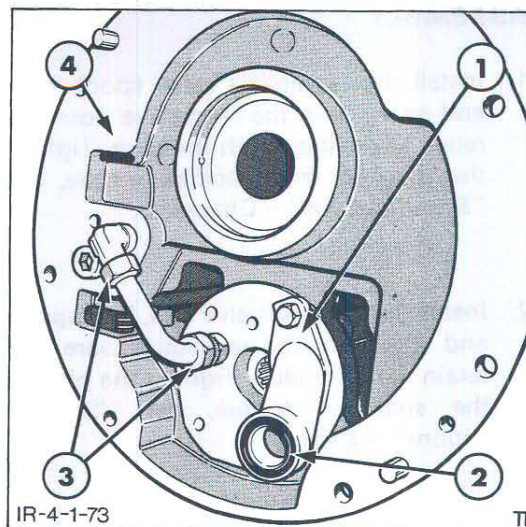

Figure 82
9. Inspect the oil distributor housing for cracks and check the valve bores for wear or scoring. Check the pressure pipes connections are tight and renew the suction pipe seal on assembly, Figure 82.